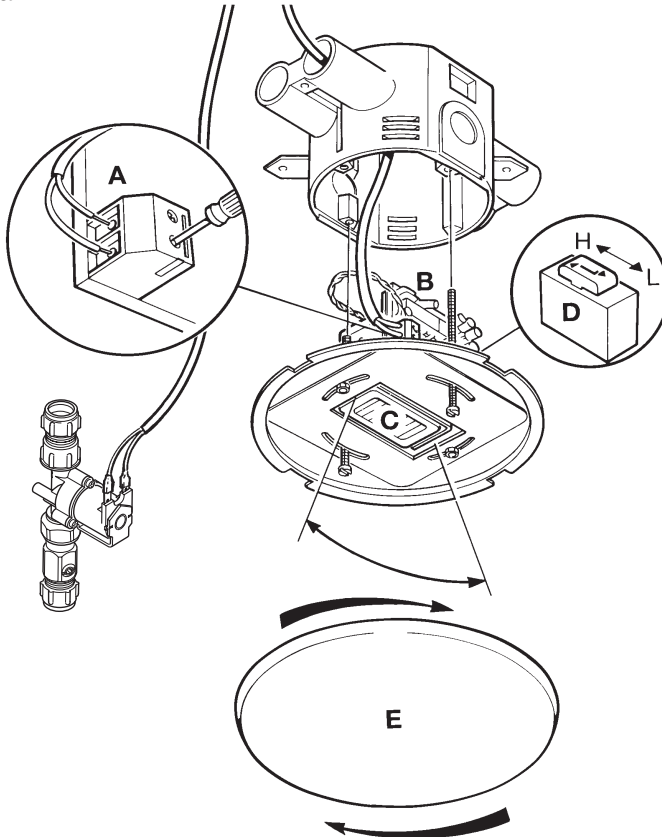

Figure 8
3. Connect the two-core cable to the connector block **(A)** on the Sensor internal circuit board **(B)** (refer to Figure 8). Wiring polarity is not important.
2. The sensor alignment is adjusted by gently swivelling the sensor on its mounting bracket (refer to Figure 8). The delay / flush cycle should be activated by the presence of a user within the urinal area.